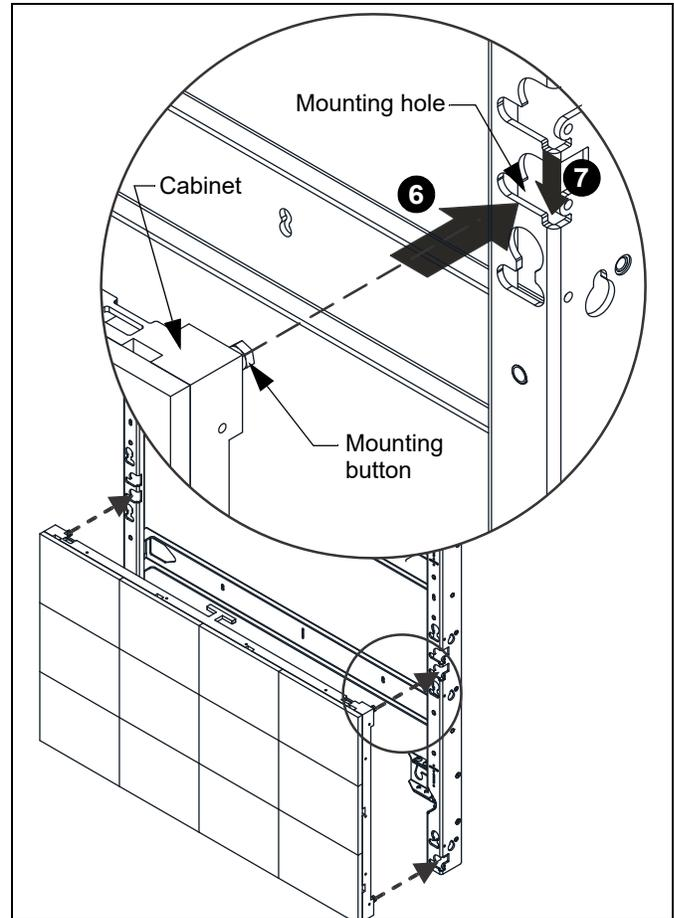

Figure 18
- Lower cabinet ensuring that mounting buttons are securely seated in the four mounting holes. (See Figure 18)